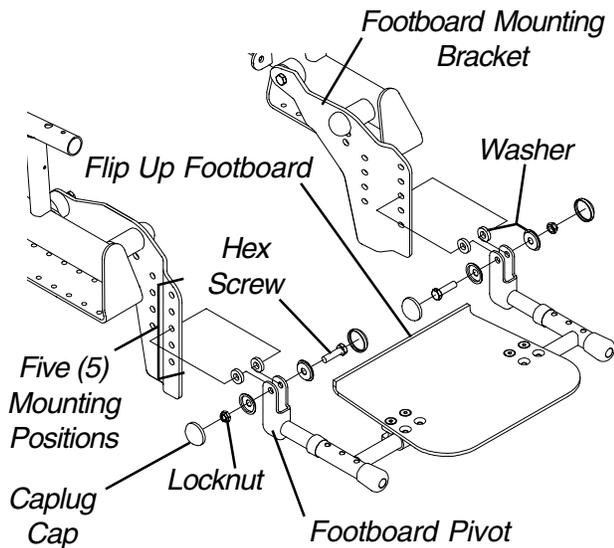

FIGURE 4 - ADJUSTING FLIP-UP REMOVABLE FOOTBOARD - HEIGHT
**Height (FIGURE 4)**
- If necessary, remove the four (4) caplug caps.
- Remove the hex screw, two (2) spacers, washers and locknut that secure one (1) of the footboard pivots to the footboard mounting bracket.
- Move the footboard pivots to one (1) of five (5) positions.
- Resecure the two (2) footboard pivots to the footboard mounting brackets with the hex screws, spacers, washers and locknuts. Refer to FIGURE 4 for the correct hardware orientation.
- Torque the two (2) hex screws to 156in/lbs. and back off the hex screws 1/8-1/4 of a revolution.
- If necessary, reinstall the four (4) caplug caps.